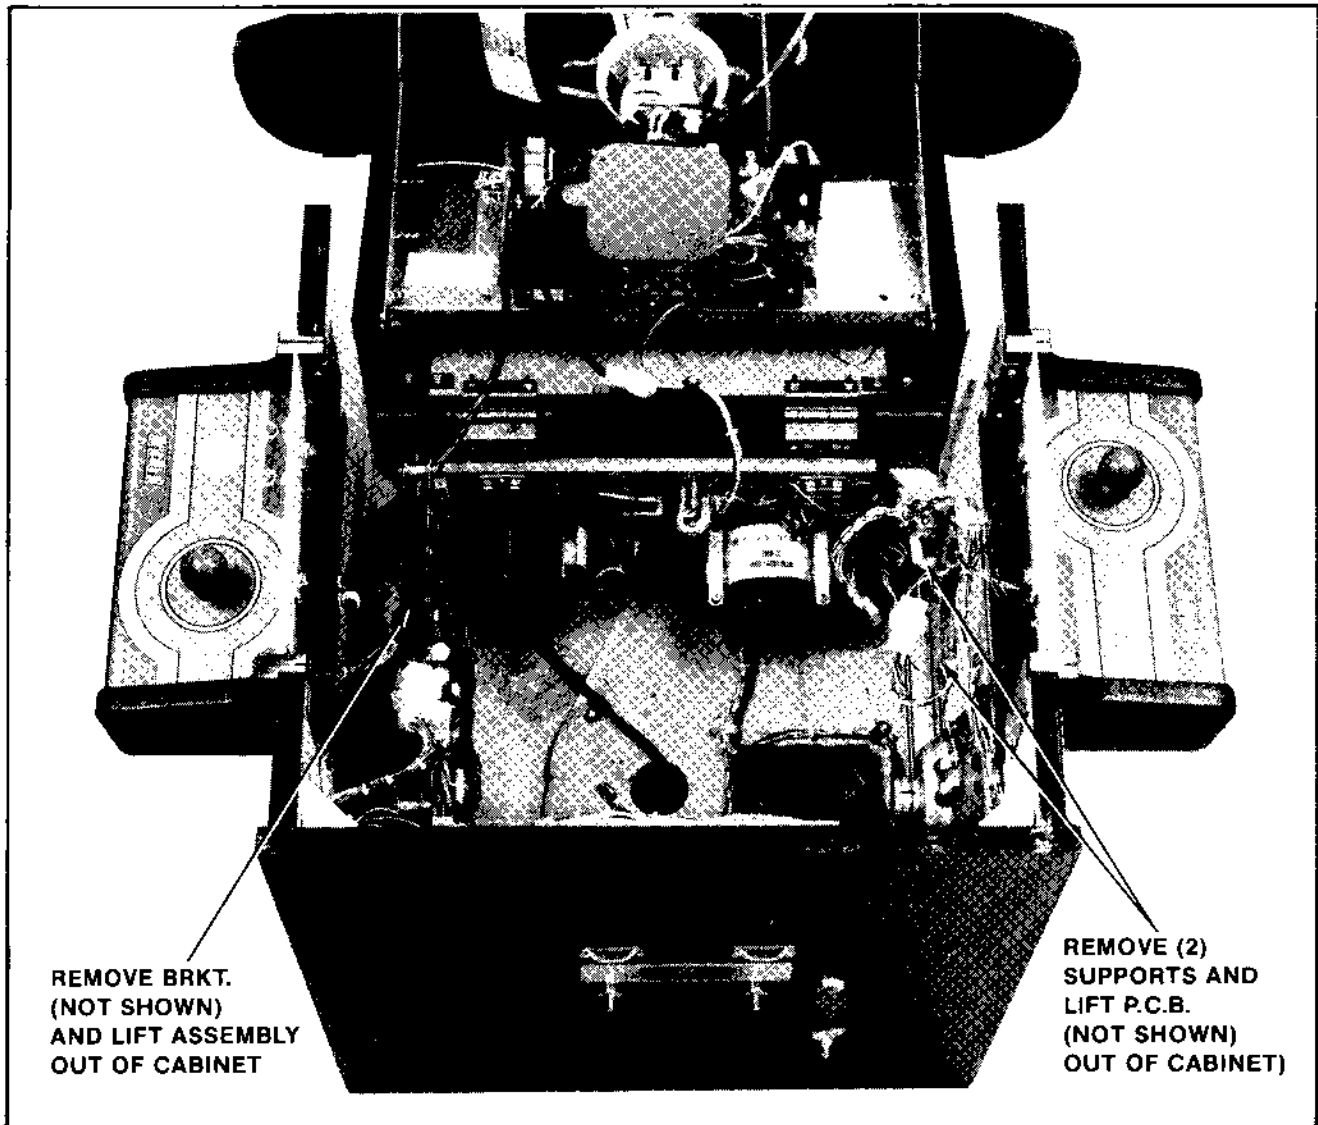

Figure 4-14 Replacing P.C.B.s — Cocktail
3. COCKTAIL TABLE MODEL: See Figure 4-14.
- To remove the power supply board. See Figure 4-14.
- To remove the game and sound boards. See Figure 4-14.